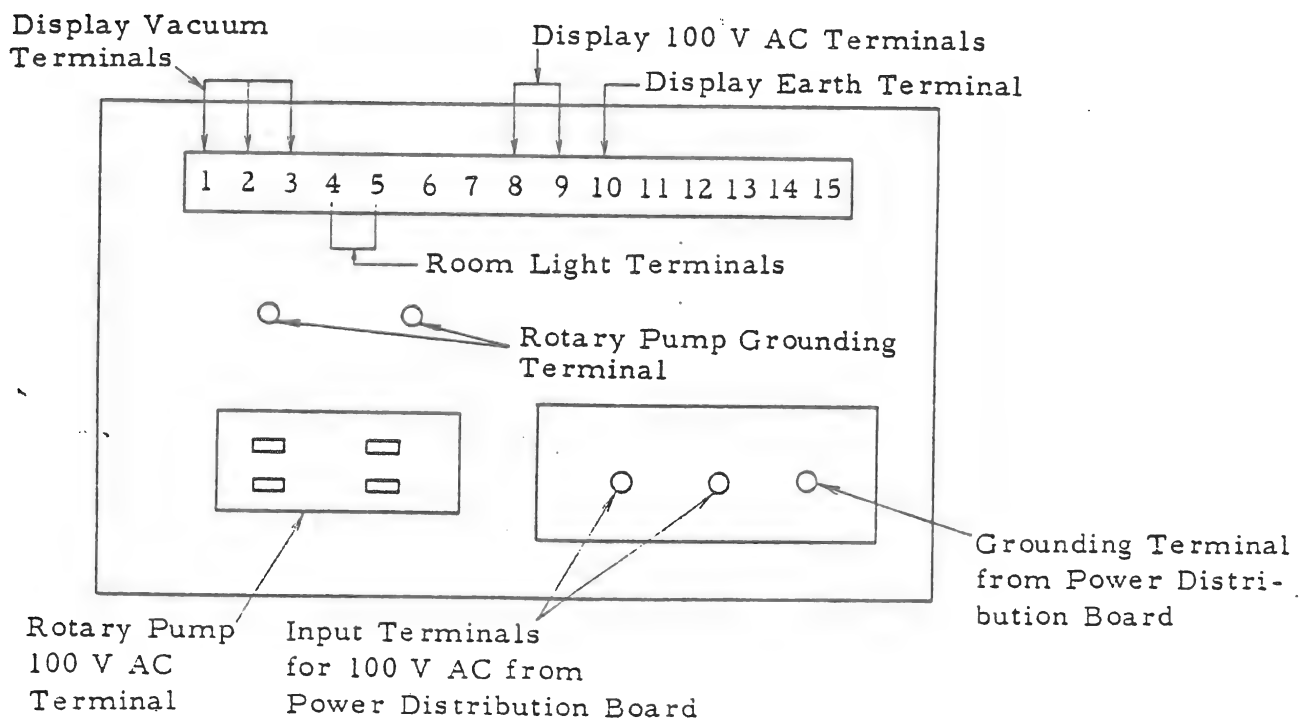

Fig. 3-6 Connection of Terminal Board on Column Console Rack
(4) Connection of 100 V AC
- (a) Connect 100 V AC from the switch box on the room power distribution board to the power terminals on the rear of the column. Connect one end of the grounding wire to the column console rack and the other end to ground. Turn off the EVAC and DISPLAY switches on the front panel of the column without fail before starting the connection work. For cord connection, see Fig. 3-6.